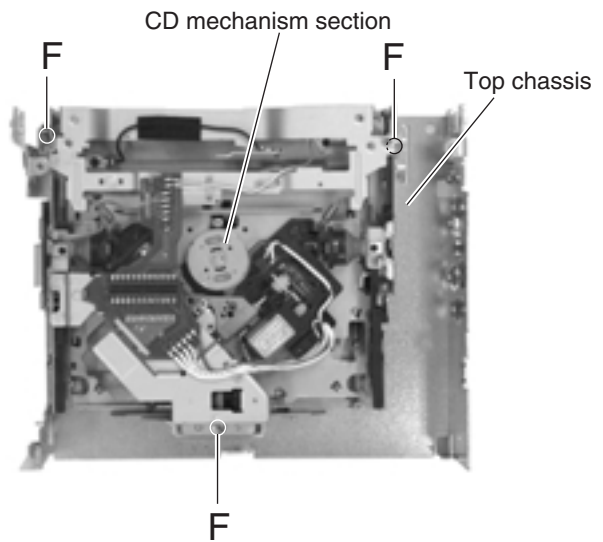

Fig.9
■ **Removing the CD mechanism section (See Fig.9)**